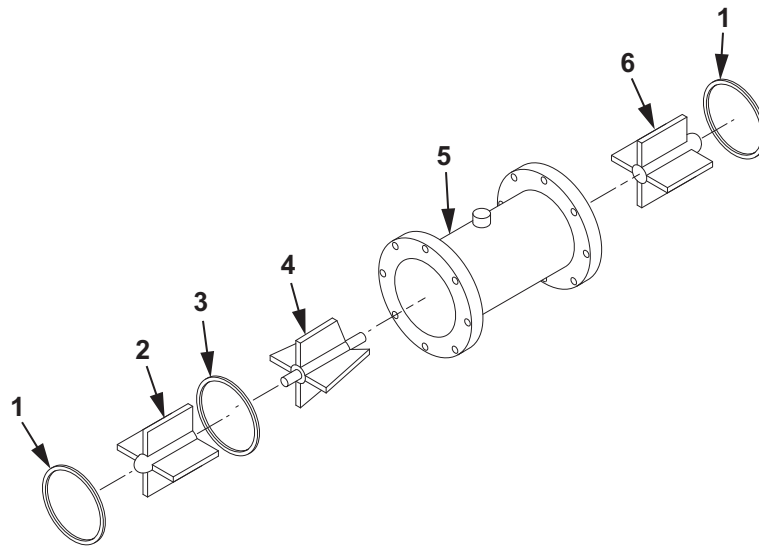

Figure 2. Tank Input Volume Flowmeter Disassembly.
3. Remove the rear rotor support (Figure 2, Item 6) from the flowmeter (Figure 2, Item 5).
4. Remove retaining ring (Figure 2, Item 3) from the flowmeter (Figure 2, Item 5).
5. Remove the rotor (Figure 2, Item 4) from the flowmeter (Figure 2, Item 5).
1. Install the rear rotor support (Figure 2, Item 6) in the flowmeter (Figure 2, Item 5).
2. Install retaining rings (Figure 2, Item 3) in the flowmeter (Figure 2, Item 5).
3. Position the rotor (Figure 2, Item 4) on the rear rotor support (Figure 2, Item 6).
4. Install the forward rotor support (Figure 2, Item 2) on the rotor (Figure 2, Item 4).
5. Install retaining rings (Figure 2, Item 1) in the flowmeter (Figure 2, Item 2).